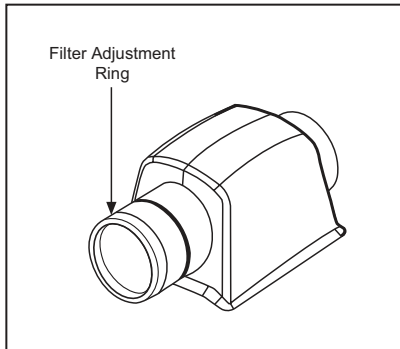

Figure 9
- Figure 9 shows the polarizing light filter's adjustment ring. The in-scope aiming reticule helps you aim accurately to the target.